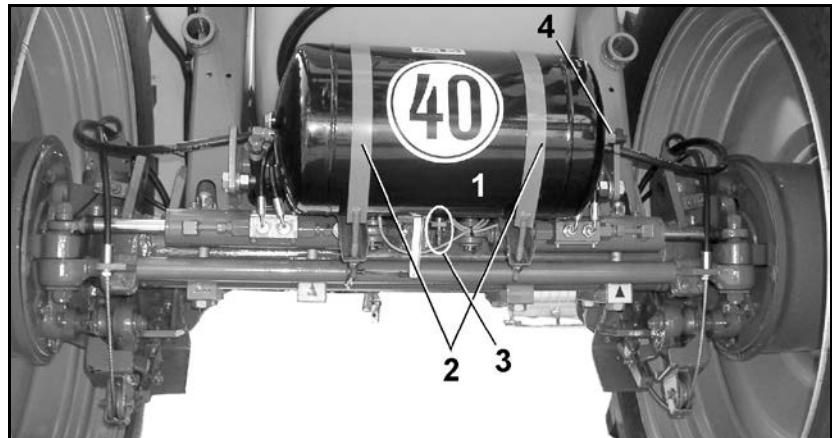

Fig. 168
1. Check the dust sleeves or gaiters (Fig. 168/5) for damage.